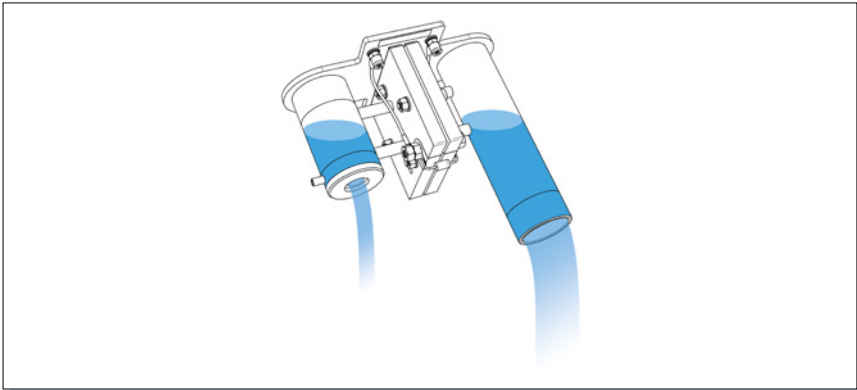

Fig. 9: Emptying the water reservoir
- Drain both water reservoirs, as shown in fig. 9.